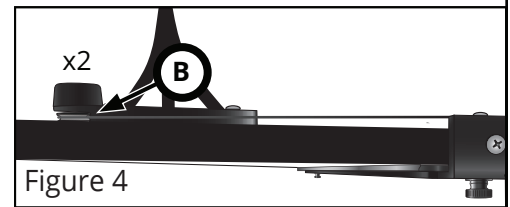

Figure 4
- 3** Thread wire through all four pulleys (see Figure 4 & 5) with ends meeting in the middle.